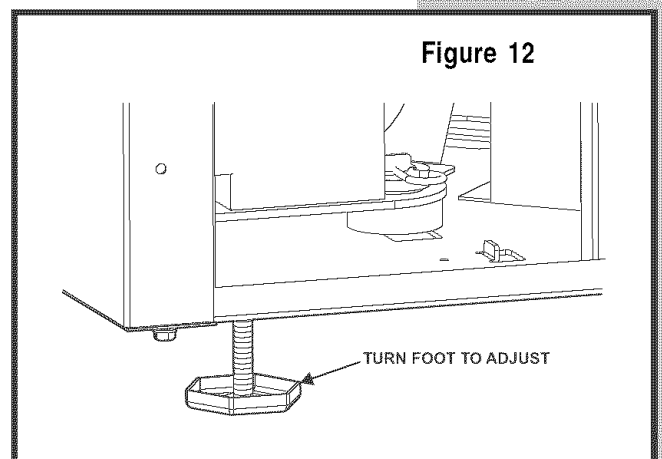

Figure 12
- 2 If the ice maker is not level, adjust the feet on the corners of the unit as necessary (see **Figure 12**).